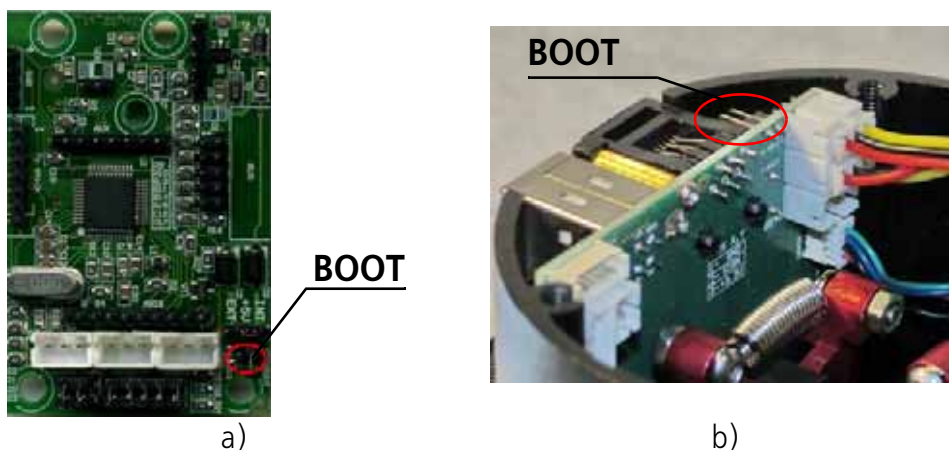

Fig. 2.7.
3. Short BOOT jumper on the controller plate (Fig. 2.7).